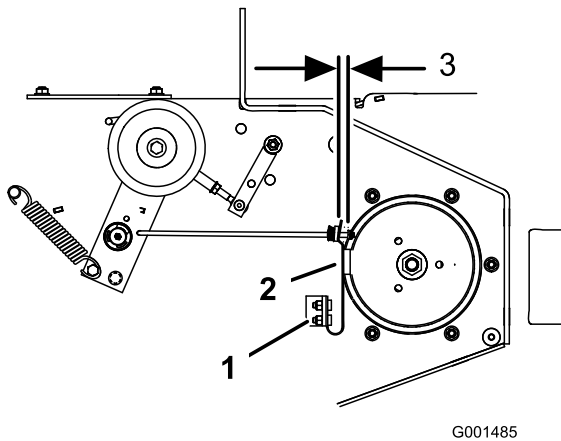

Figure 54
3. If necessary, adjust the spring mounting bolts so that the blade brake pad rubs against both sides of the pulley groove (Figure 54).
4. Adjust the nut at the end of the blade brake rod until there is 3 mm to 5 mm (1/8 to 3/16 inch) between the nut and the spacer (Figure 54).
**Note:** Make sure that 1 J-hook end of spring is installed behind deck edge before installing the bolt as shown in Figure 54.
6. Place 1 J-hook end of the spring around the grass deflector (Figure 54).
1. Remove the locknut, bolt, spring, and spacer holding the deflector to the pivot brackets (Figure 54).